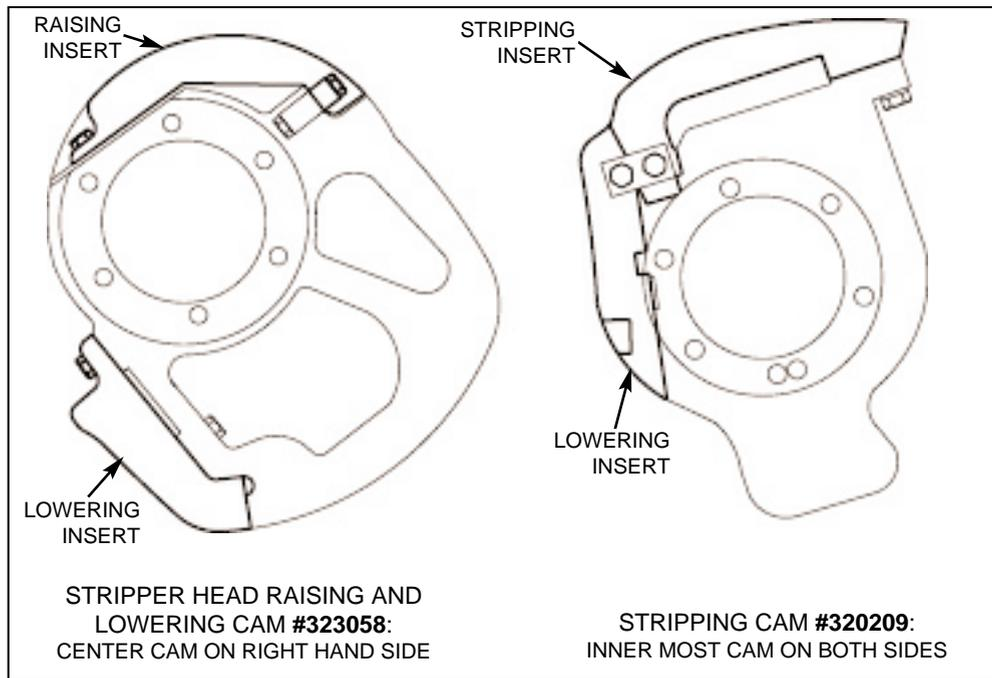

Figure 4.12 CAM INSERTS.
- 4.1.5 Install stripping cam insert # **320209** on each side of the machine and one stripper head raising cam insert # **323058** on the right side of the machine (see figure 4.12).